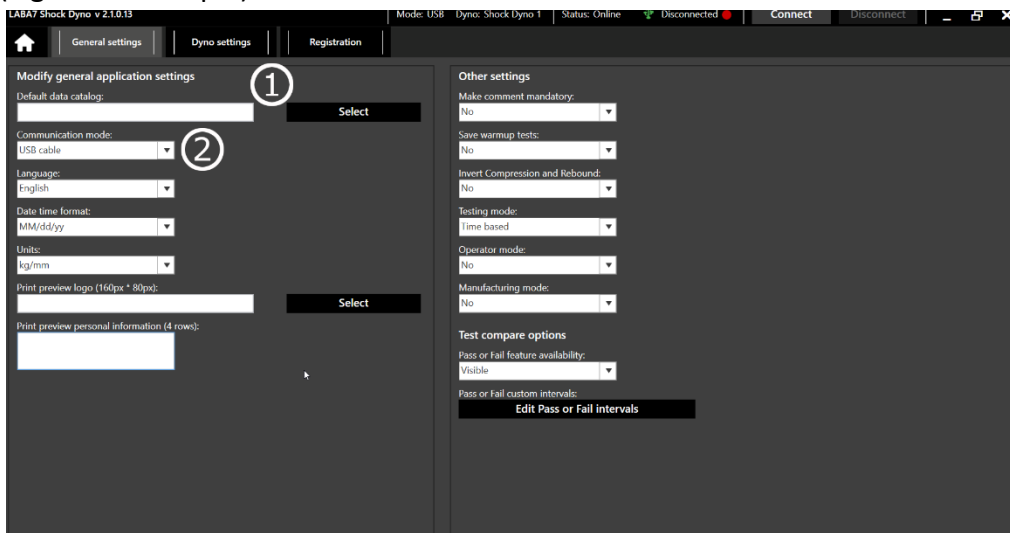

Figure 13
6. Select the default data catalog, this is the catalog, where all of your test project files will be saved. (Figure 13 – Step 1).
7. Select Wi-Fi Communication Mode by clicking on the drop-down menu (Figure 13 – Step 2);
9. Add a new Dyno model by clicking Add button (Figure 13 – Step 1).